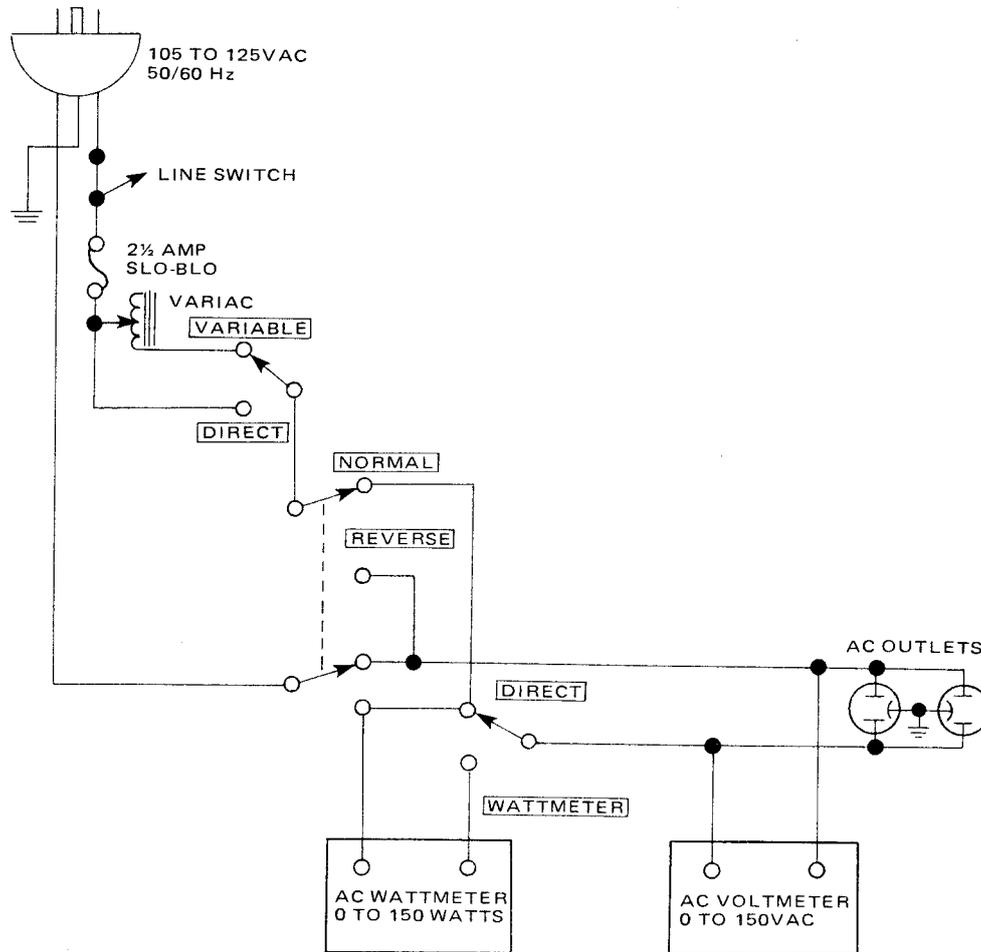
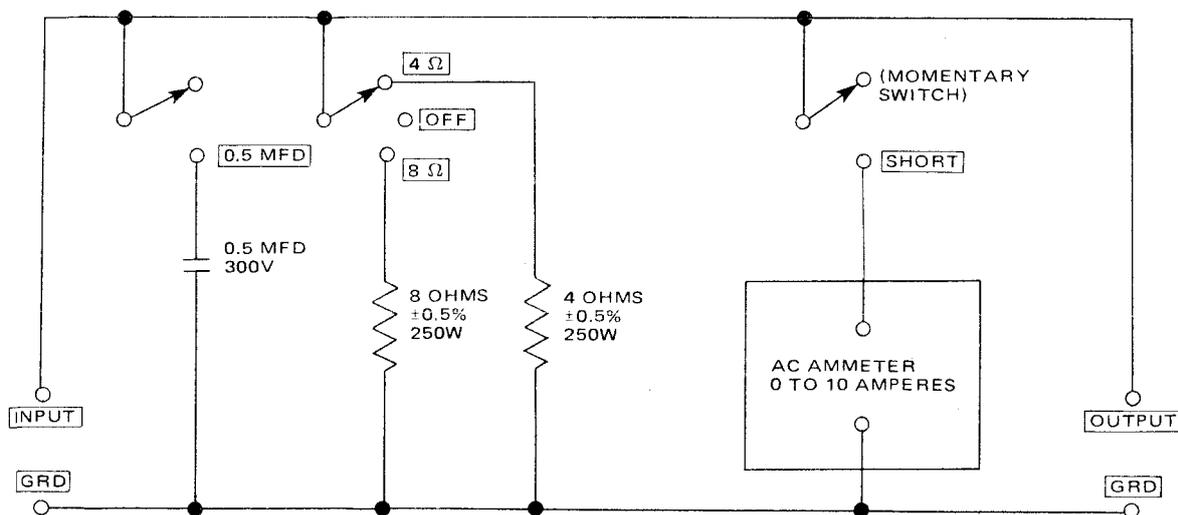

Figure 1. AC Power Control Box Simplified Schematic
Figure 2. Amplifier Output Load Box Simplified Schematic
Table 1 lists the test equipment required for servicing the Model 1090 Stereo Console Amplifier. The wattmeter, AC voltmeter, and variable autotransformer may be assembled as a test fixture as shown schematically in Figure 1. The load resistors and AC ammeter may be assembled into a second test fixture as shown in Figure 2.
1. Make the test setup shown in Figure 1 with the instrument controls set in the following positions:
| AC Power Control Box | Optional Item. Fabricate in accordance with Figure 1 | Monitors and controls primary power for amplifier |
| Amplifier Output Load Box | Optional Item. Fabricate in accordance with Figure 2 | Provides various amplifier loads and can monitor shorted output |